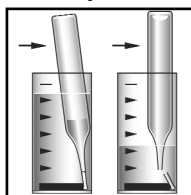

Figure 3
6. Place the CHEMet ampoule, tip first, into the sample cup. Snap the tip. The ampoule will fill leaving a bubble for mixing (fig. 3).